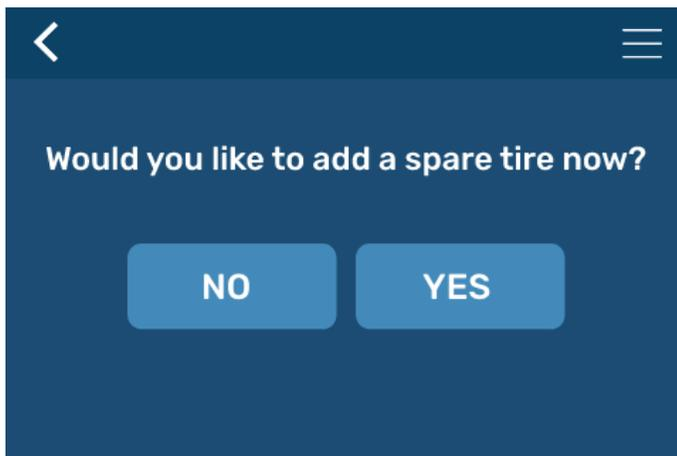

Fig.9
9. Determine if a spare tire will be added (Fig.9). Tapping YES will add the spare tire icon to the vehicle selected.